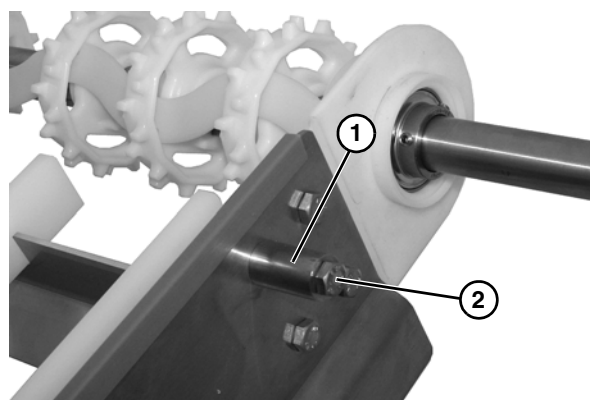

Figure 4
1. On each side of conveyor, remove upper front head plate mounting screw and install spacer (**Figure 4, item 1**) with longer screw (**Figure 4, item 2**).